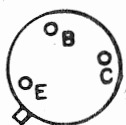
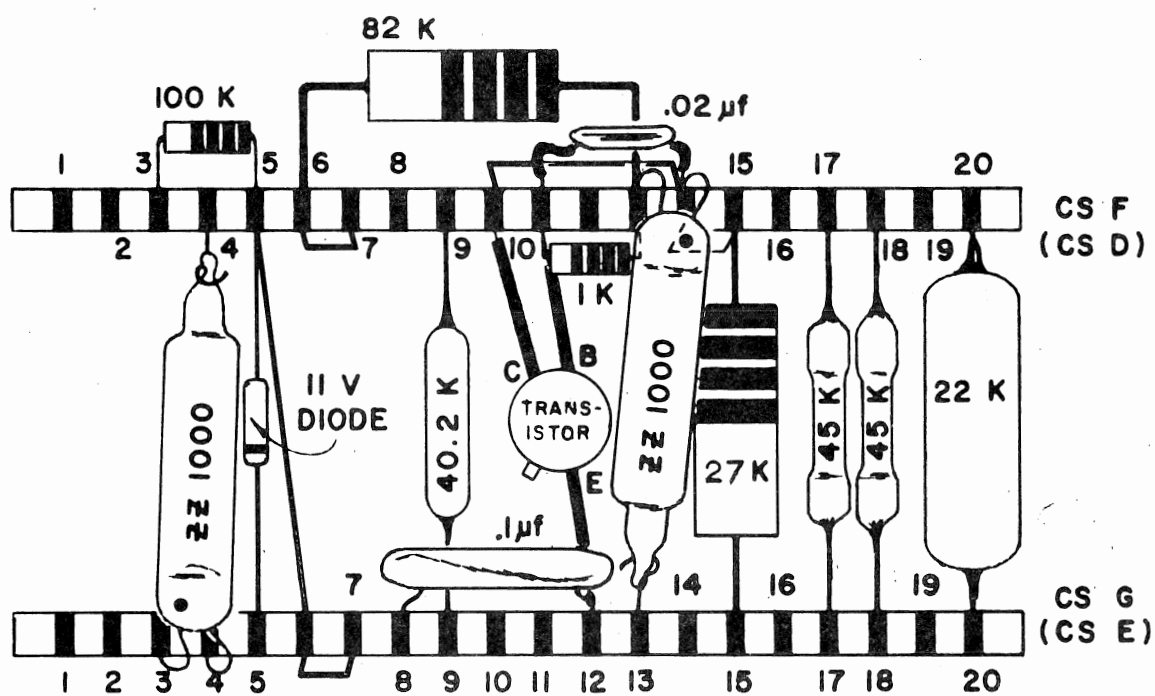

Fig. 7
Fig. 8
- C. 5. Solder the following wires and components to the points indicated in Fig. 8. (Parts from kit except as noted):
Solder transistor leads as follows (see Fig. 8). NOTE: Transistor base diagram is shown in Fig. 7.